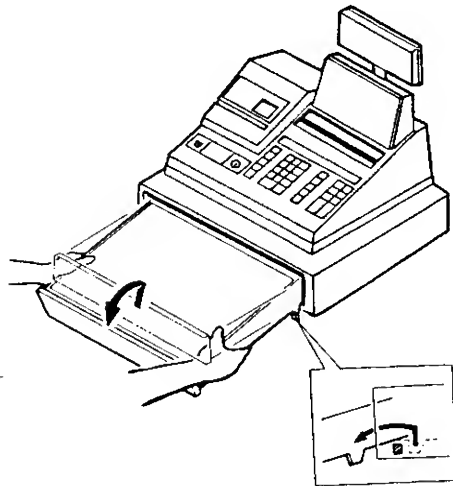
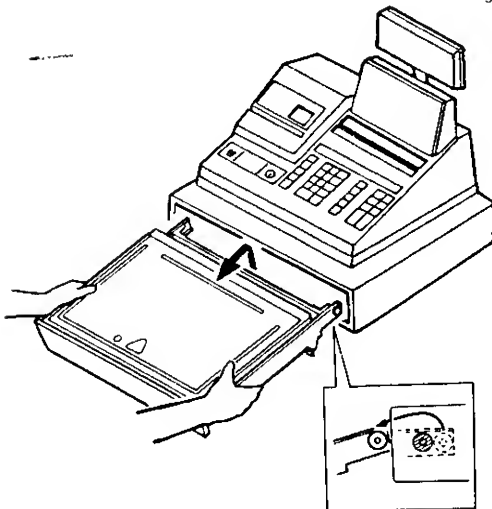

Fig. 2
Fig. 3
1. Pull the drawer out, and when it stops by the stopper, lift the drawer up and pull it again (Fig.2). When it stops again by the roller fixed in the drawer case, lift it and pull it again (Fig.3).